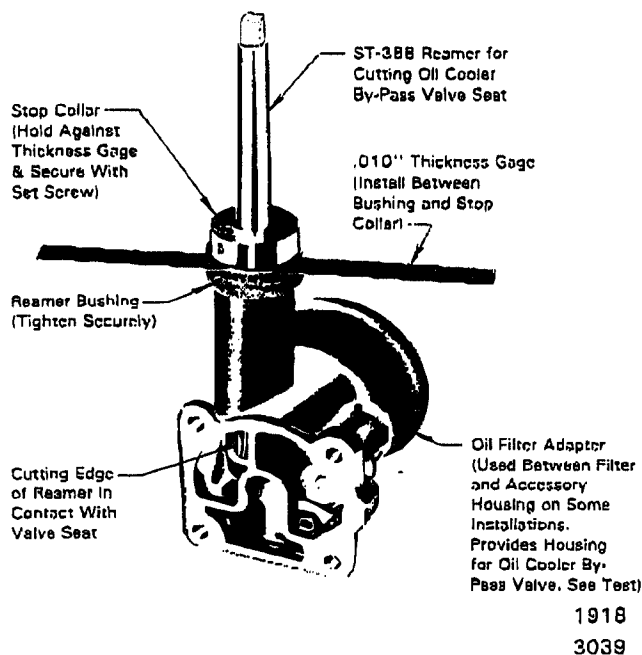

Figure 4.
Figure 4 of this instruction shows the P/N ST-388 reaming tool assembled in an oil filter base assembly. This installation is typical for all locations of the oil cooler by-pass valve.
1. Apply a small amount of all-purpose grease on the fluted end of P/N ST-388-1 reamer. Insert the P/N ST-388-1 Reamer thru the ST-388-2 guide bushing and install it in the oil cooler bypass valve housing. Engage the threads of the guide bushing with the threads of the valve housing and tighten the guide bushing firmly. See Figure 4.